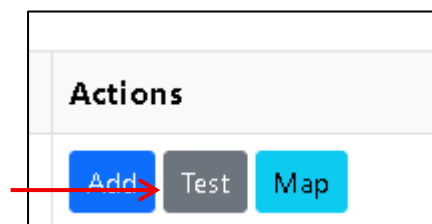

Figure 20: Data source Test action button
2. Review each row and confirm the source column is mapped to the correct model column (fig. 20).